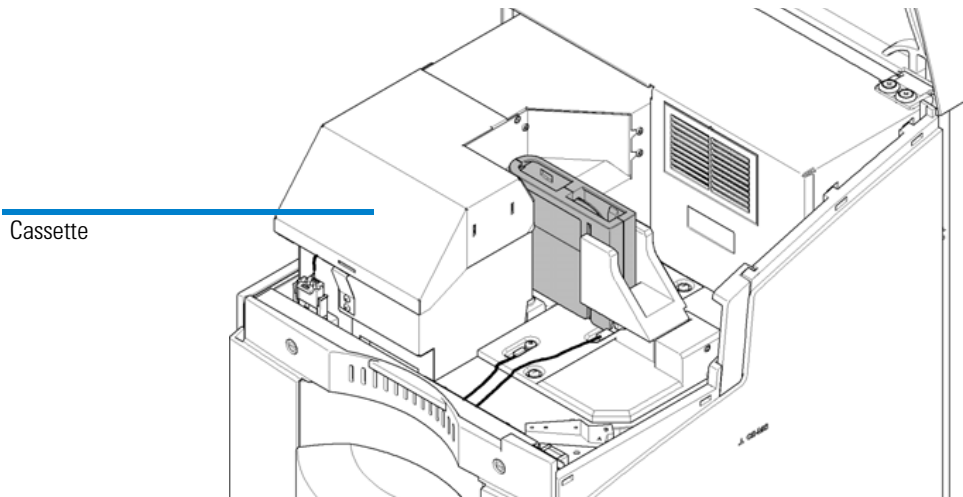

Figure 26 Position of installed cassette
- 2 Open the top cover to access the cassette. Press a spring located in the middle of the front lid to release the latch. Figure 26, “Position of installed cassette,” on page 122 shows the position of an installed cassette.